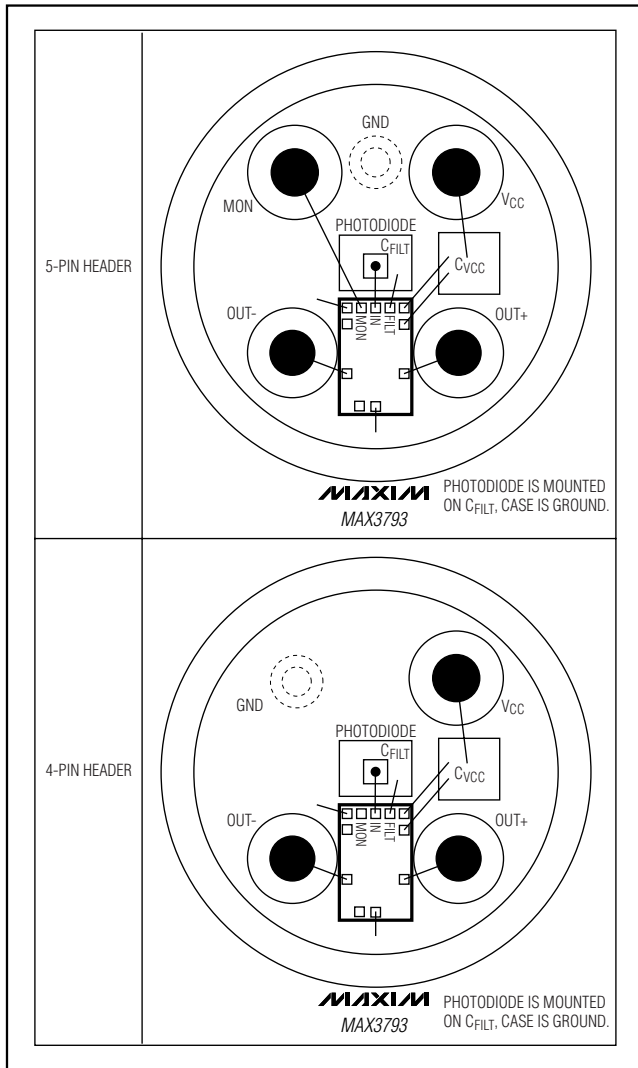

Figure 3. Suggested TO Header Layouts
Figure 3 shows suggested layouts for 4-pin and 5-pin TO headers.
- Rev 1; 11/05: Changed Figure 3 (page 8).